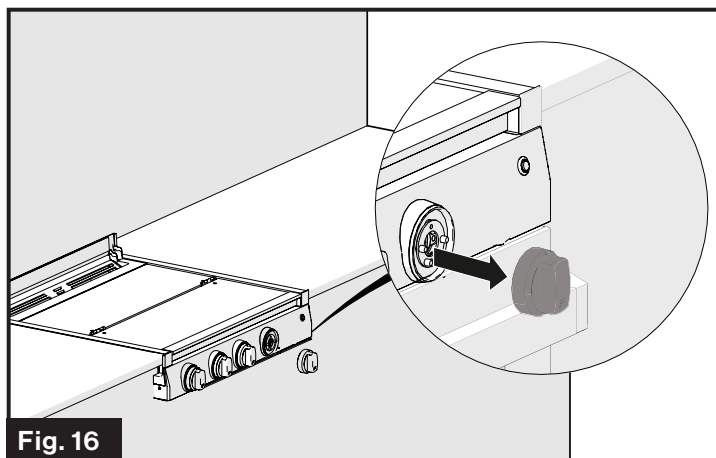

Fig. 16
2. Grasp and pull on the control knob with the broken LED light. (Fig. 16)